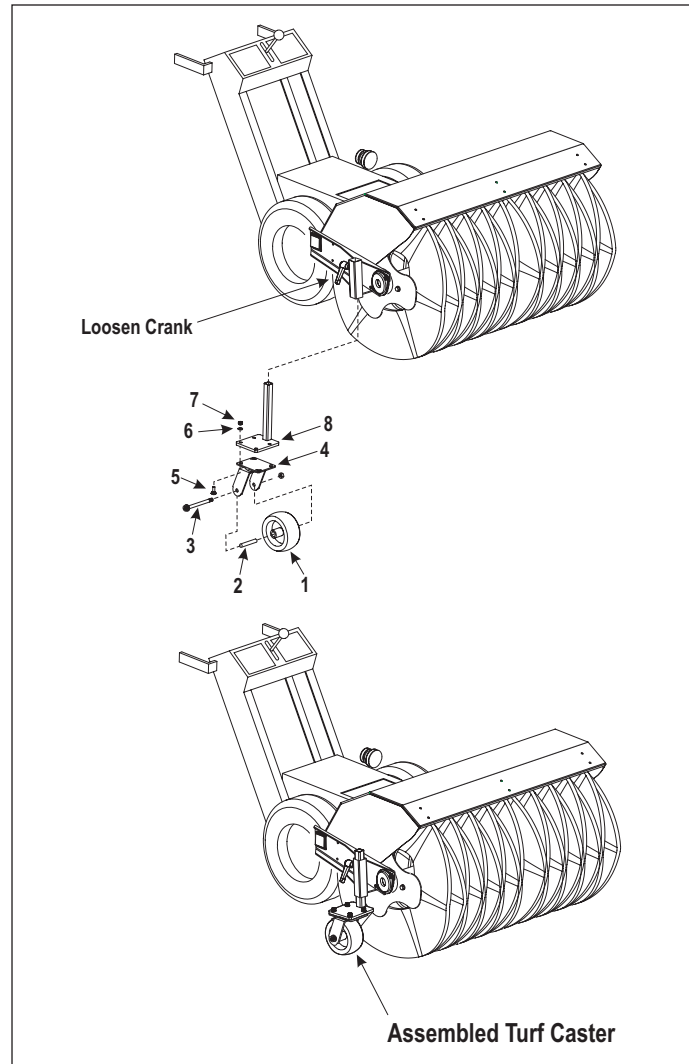

Figure 22. Turf Caster Assembly
2. Loosen the standard caster assembly by loosening the locking lever. See Figure 22.
4. Attach caster wheel (1, Figure 22) to the caster fork swivel plate (4) using bolt (3), bushing (2) and nut.